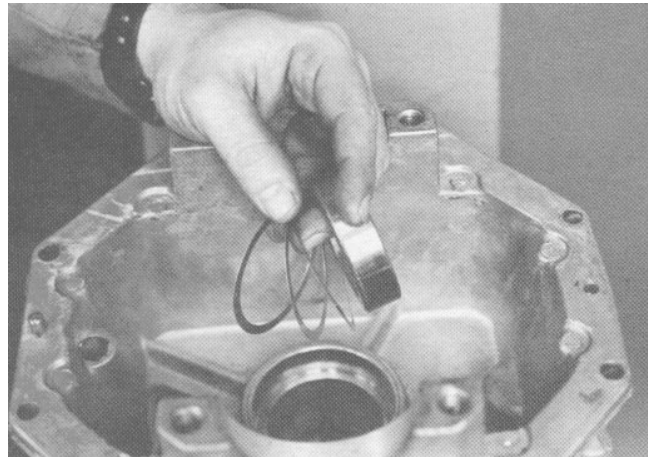

Figure 38
4. Install a new inner bearing cup using a press plate of proper diameter. Reuse the original shims or use new shims of the same thickness. Push the bearing cup into the housing until it bottoms against the housing (Fig. 38).